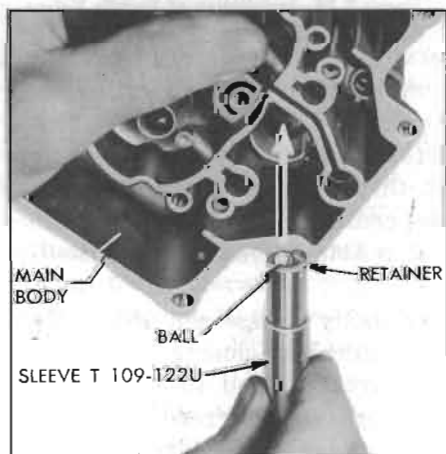

Figure 3-37—Installation of Intake Check Ball and Retainer
8. Place a *new* intake check ball retainer and check ball in small end of the sleeve of Loader Unit T109-122U, holding sleeve vertical. Invert main body and insert parts and tool into pump cylinder, then turn body over and tap sleeve to seat the retainer in recess at bottom of pump cylinder. See figure 3-37.